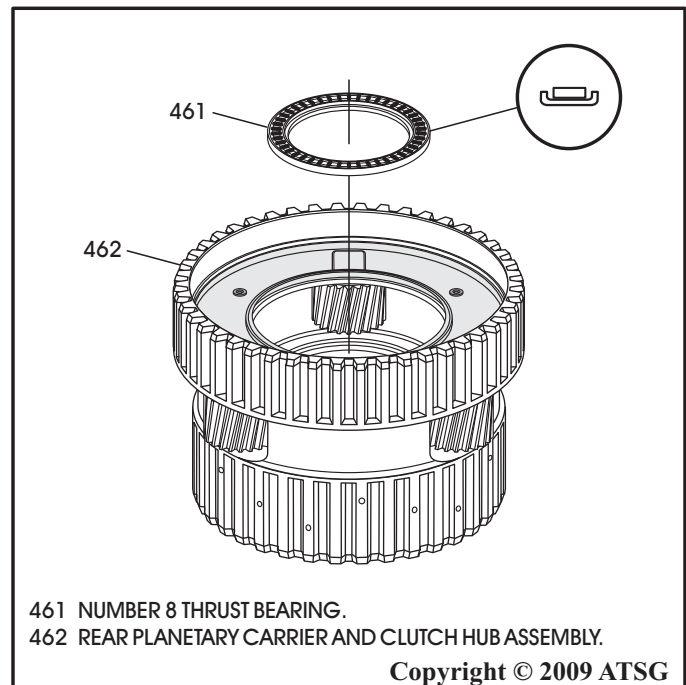

Figure 143
43. Install the number 8 thrust bearing, as shown in Figure 143, by hand pressing into place, and ensure that it is full seated.